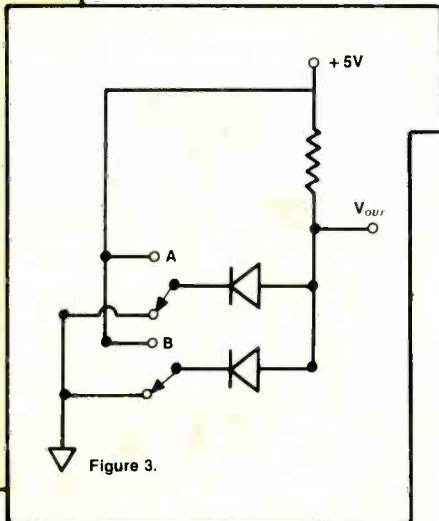

Figure 3.
- Assume that +5V represents logic 1 and 0V represents logic 0. (Disregard any voltage drop across the diodes.) The circuit of Figure 3 operates as
Circuit analysis—Figure 3 shows very little except those four voltages and waveforms that are so important for IC oscillator troubleshooting. Incoming horizontal sync at pin 16, +9.9V supply at pin 15 and horizontal near-square waves from pin 4 for the horizontal-driver transistor are all self explanatory. The sawteeth (ramps) needed for pin 1 are formed from flyback horizontal pulses by series resistance R602 and paralleling capacitor C601 (nearby components do not change the basic sawtooth shape).
unlocked horizontal frequency. Capacitors and resistors make up an RC time constant. R608 plus R606 vs. C604 plus R607 form the basic time constant. However, there is one more important factor determining frequency: the dc voltage present. This is the element that is varied to accomplish locking; the dc voltage is varied in two ways. Variable voltage from R608 hold control is the most obvious. But there is another source not shown in Figure 3. In reality, R604 connects to R603 with fast and slow time constant filters between the junction and ground. If the horizontal attempts to drift, the correction voltage from pin 1 is filtered and applied to the oscillator pin 2 where it corrects the frequency. Pin 1 appears to be the only entrance for phase-comparison sawteeth, meanwhile doing double duty as exit for the dc error-correction voltage. The horizontal sync pulses entering at pin 16 comprise the other signal for the phase-comparison circuit.
Figure 3. The horizontal oscillator of this Sharp 13D38 (Photofact 1934-2) is typical of many from Japan, except for details. The oscillator output, sync input, horizontal pulses and sawteeth input and the B+ supply are all identified. One thing is different from some: The oscillator operates at double horizontal (31,468H) and a single divider provides the essential 15,734Hz where the signal emerges at pin 4. Critical components here are C604, C607 and R606.